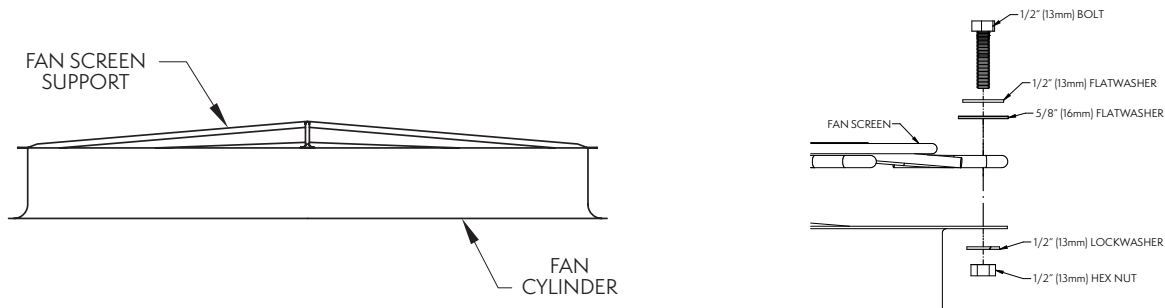

Figure 24 — Fan Screen Support & Fan Screen Installation
1. Set the fan screen support across the top of the fan cylinder as shown in **Figure 24**.
4. At each hole, attach the fan screen to the fan cylinder as shown in **Figure 24**. At the four points where the fan screen support meets the cylinder, bolt the support to the cylinder together with the fan screen.